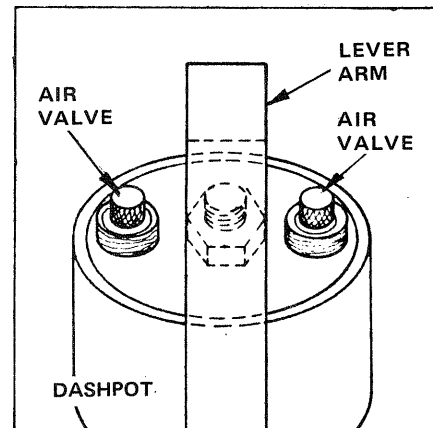

FIGURE 9-29 Dashpot Air Valves.
- H. Plug the Power Cord into the Circuit Interrupter and turn the Interlock and ① POWER Switches ON. Press the ⑩ PLAY Push-button and observe the operation of the Solenoid. If the Solenoid is functioning properly, proceed to POINT X on page 141. If the Solenoid still requires more thrust to operate the Pedal, stop the tape and remove the unit, then proceed to Point I below. See the CAUTION under Point G above.
- I. Check the tightness of the Air Valves on the top of the Dashpot (see FIGURE 9-29). If they are very tight, loosen each one approximately 1/2 turn to decrease the internal resistance of the Dashpot, then proceed to Point J below.
- J. Move the Vorsetzer back to the piano and secure it in place. Plug the Power Cord into the Circuit Interrupter and turn the Interlock and ① POWER Switches ON. Press the ⑩ PLAY Button and play Program 9. If the Solenoid is functioning correctly, proceed to Point X on page 141. If the Solenoid still displays the trouble, proceed to point K on the next page.